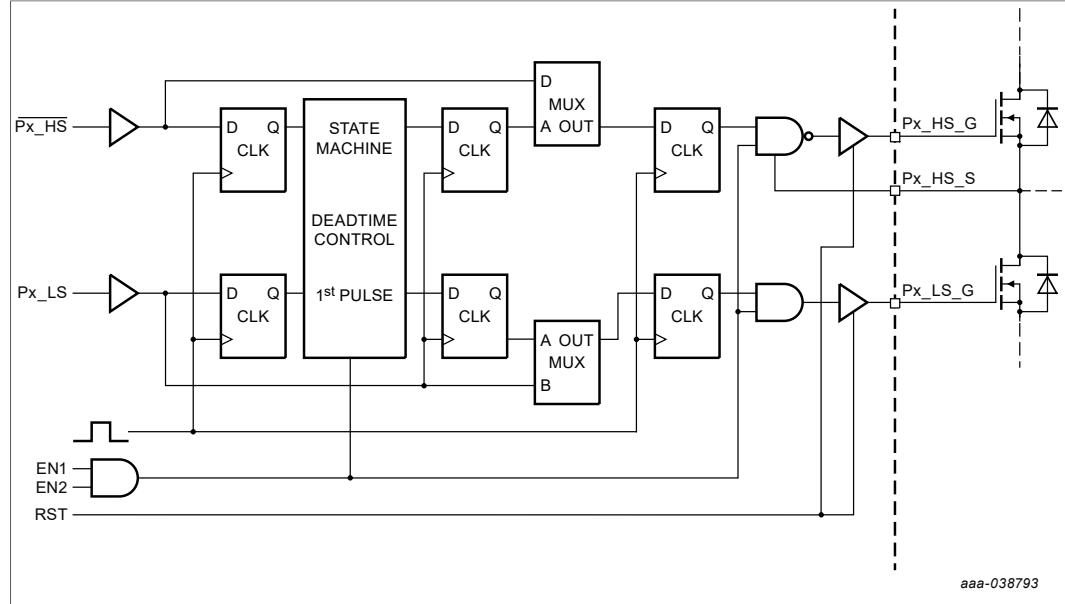
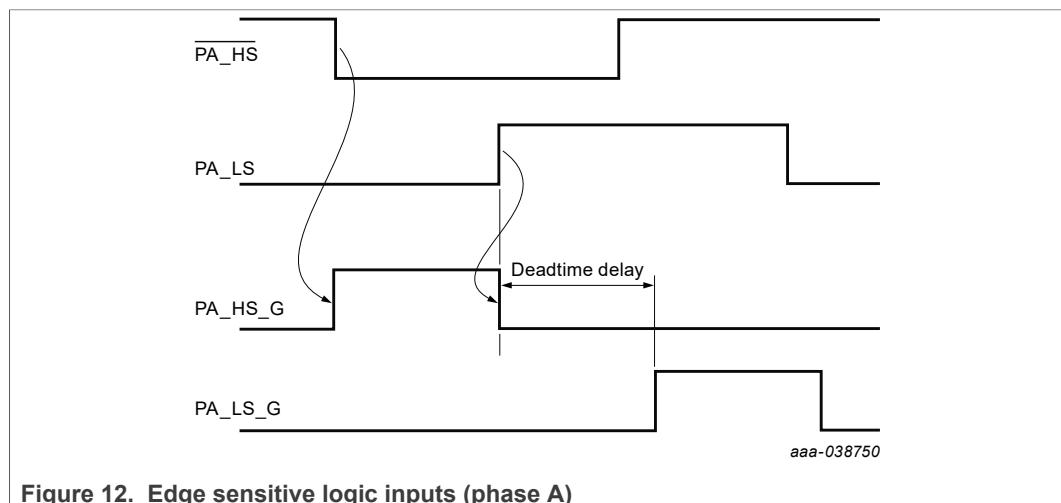

Figure 5. Deadtime control delays
Figure 12. Edge sensitive logic inputs (phase A)
- [6] These delays include all logic delays except deadtime. All internal logic is synchronous with the internal clock. The total delay includes one clock period for state machine decision block, an additional clock period for FULLON mux logic, input synchronization time and output driver propagation delay. Subtract one clock period for operation in FULLON mode which bypasses the state machine decision block. Synchronization time accounts for up to one clock period of variation. See Figure 5.
The Px_HS and Px_LS logic inputs are edge sensitive. This means the leading edge on an input causes the complementary output to immediately turn off and the selected one to turn on after the deadtime delay as illustrated in Figure 12. The deadtime delay timer always starts at the time a FET is commanded off and prevents the complementary FET from being commanded on until after the deadtime has elapsed. Commands to turn on the complementary FET after the deadtime has elapsed are executed immediately without any further delay. See Figure 5 and Figure 12.